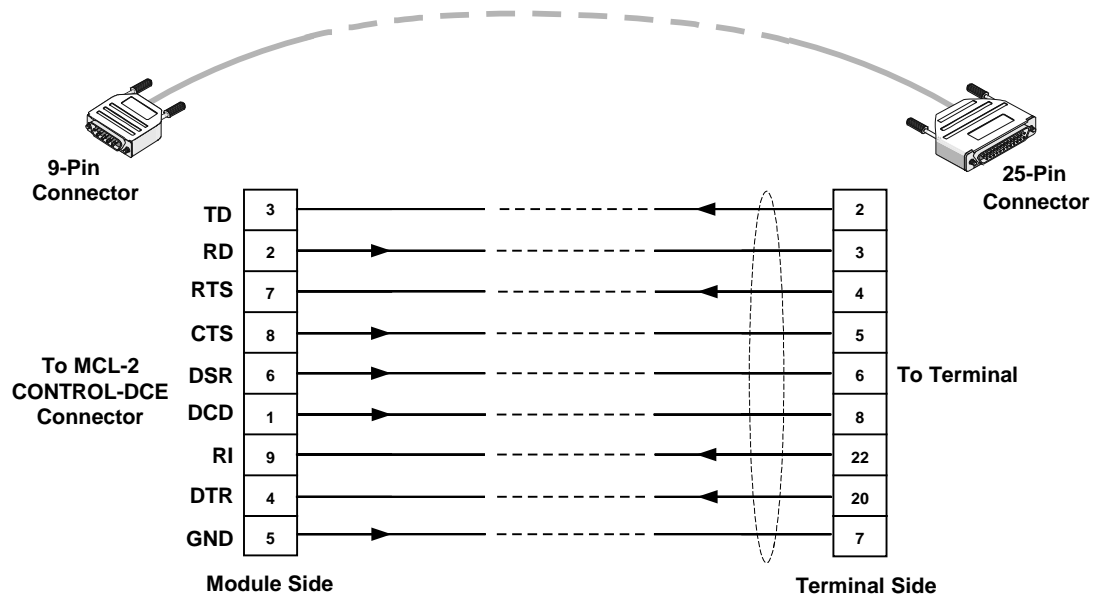

Figure A-1. 9-Pin/25-Pin Cable Wiring – Connection to CONTROL-DCE Connector
- The connection to a terminal with 25-pin connector is made by means of a cable wired in accordance with Figure A-1.